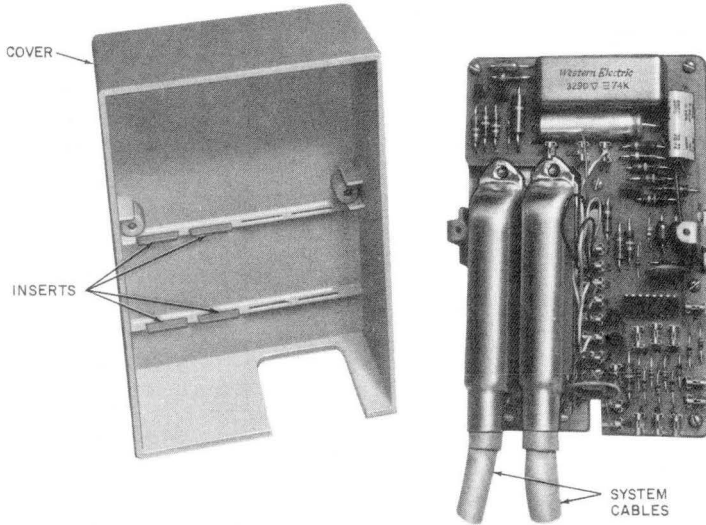

Fig. 18—26A Apparatus Unit With L-769856 Cover
- (1) Remove the cover and mount the base assembly (Fig. 18 and 19) on the desired location (use appropriate fastener per BSP 080-720-105).
and 31) where it is stored; insert the lead in the IN terminal (Fig. 18 and 31).
- (2) Insert system cables (Fig. 18).
- (3) Position inserts (Fig. 18) inside cover to hold cables securely in place when cover is replaced.
- (4) Replace the cover.